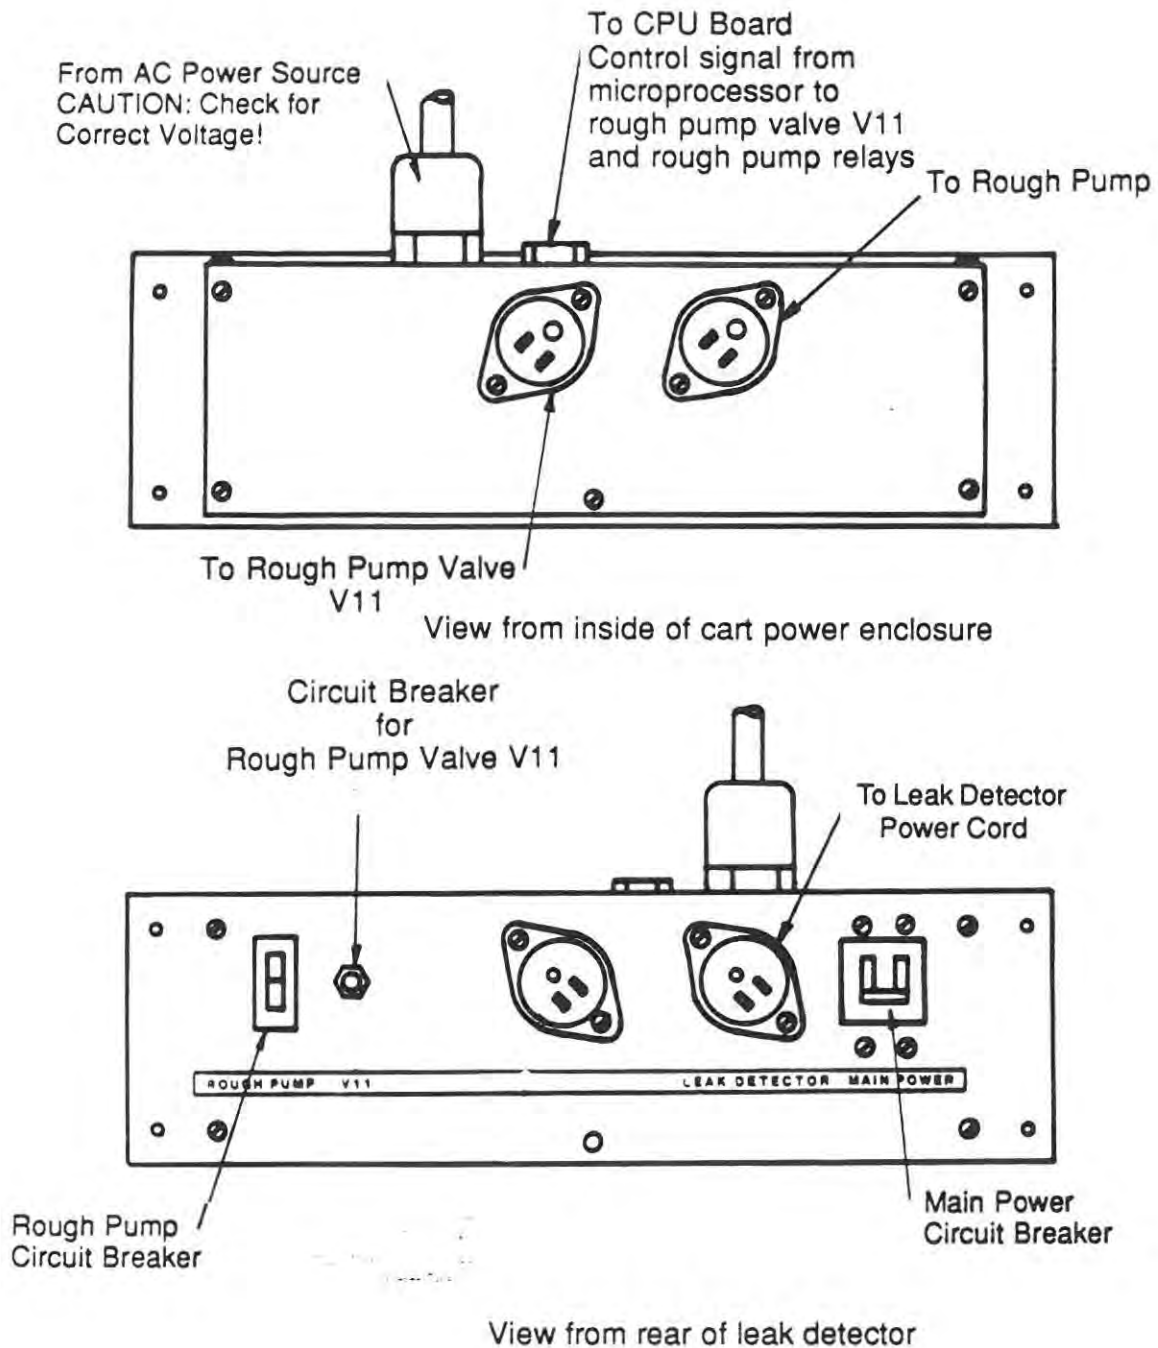

Figure 3-2. Leak Detector Installation Connections.
### **3-5 INSTALLATION (See Figure 3-2)**
- 2 Check that all options (if any) are plugged in to their respective sockets (see Figure 3-2).